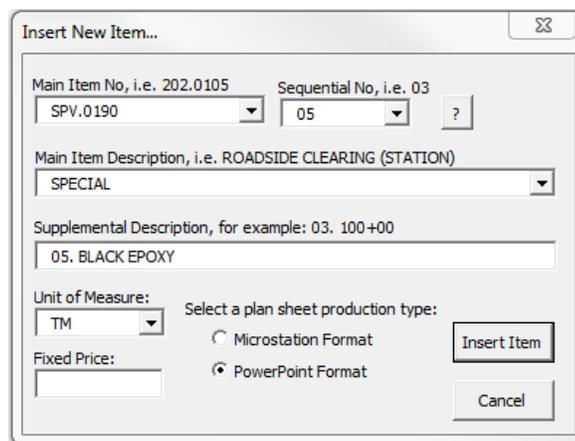

Figure 4.2 “Insert New Item...” dialog box.
2. Once the “Insert New Item...” dialog box appears (Figure 4.2), fill in the fields appropriately.